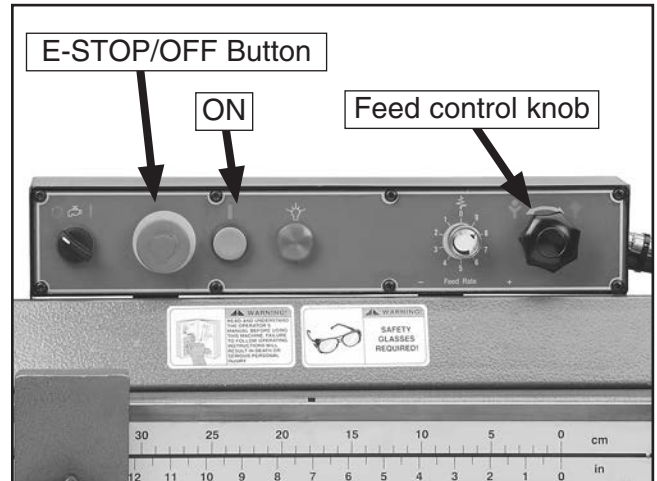

Figure 13. Control panel.
6. Start the bandsaw while keeping your finger near the EMERGENCY STOP/OFF button (**Figure 13**) at all times during the test run. The bandsaw should run smoothly with little or no vibration.